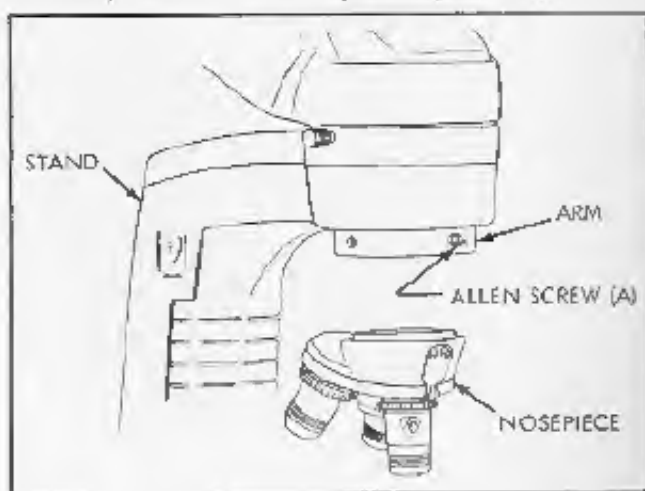

Figure 31. Removing Nosepiece
To remove the nosepiece (see figure 31), lower the nosepiece with the coarse adjustment until the front allen screw (A) becomes accessible. Back off the allen screw, and remove the nosepiece. Do not alter the position of the two allen screws on the sides of the arm, these are a factory set adjustment.